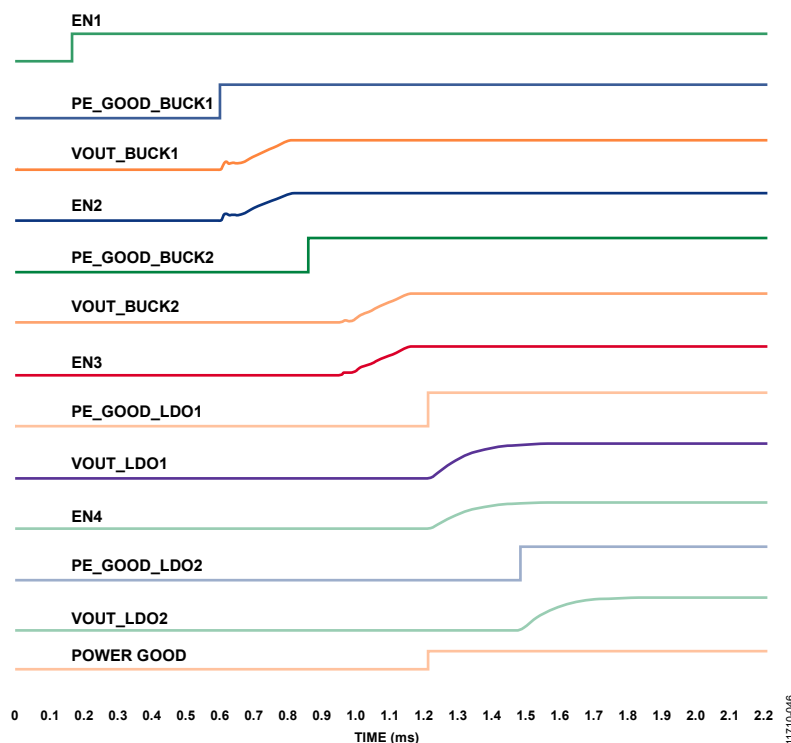

Figure 46. Regulator Sequencing on the ADP5134, Shutdown Control and Precision Enable Thresholds with PG Monitoring BUCK1 Only
A power-good output is available at Pin 6 (PG) to monitor the output voltage of any combination of the four regulators. The PG output can also be factory programmed to monitor a specific regulator channel, such as BUCK1, as shown in Figure 46. The PG pin can connect to a pull-up current to drive external regulators or other circuits. In this configuration, the PG pin goes high when the channels monitored are in regulation and goes low when the output voltage falls below 90% of the nominal V_{OUTX} level. The PG pin can also drive an LED for fault monitoring. For example, in this configuration, a red LED is biased, and current sinks into the PG pin when the output voltage falls below 90% of the nominal V_{OUTX} level. This turns the LED on, and, when the output voltage is in regulation, turns it off.
Figure 46 shows the activation timings for the ADP5134 when regulators are in sequence, VOUT1 controlling EN2, VOUT2 controlling EN3, and VOUT3 controlling EN4. Also shown is the power-good signal monitoring BUCK1 only.